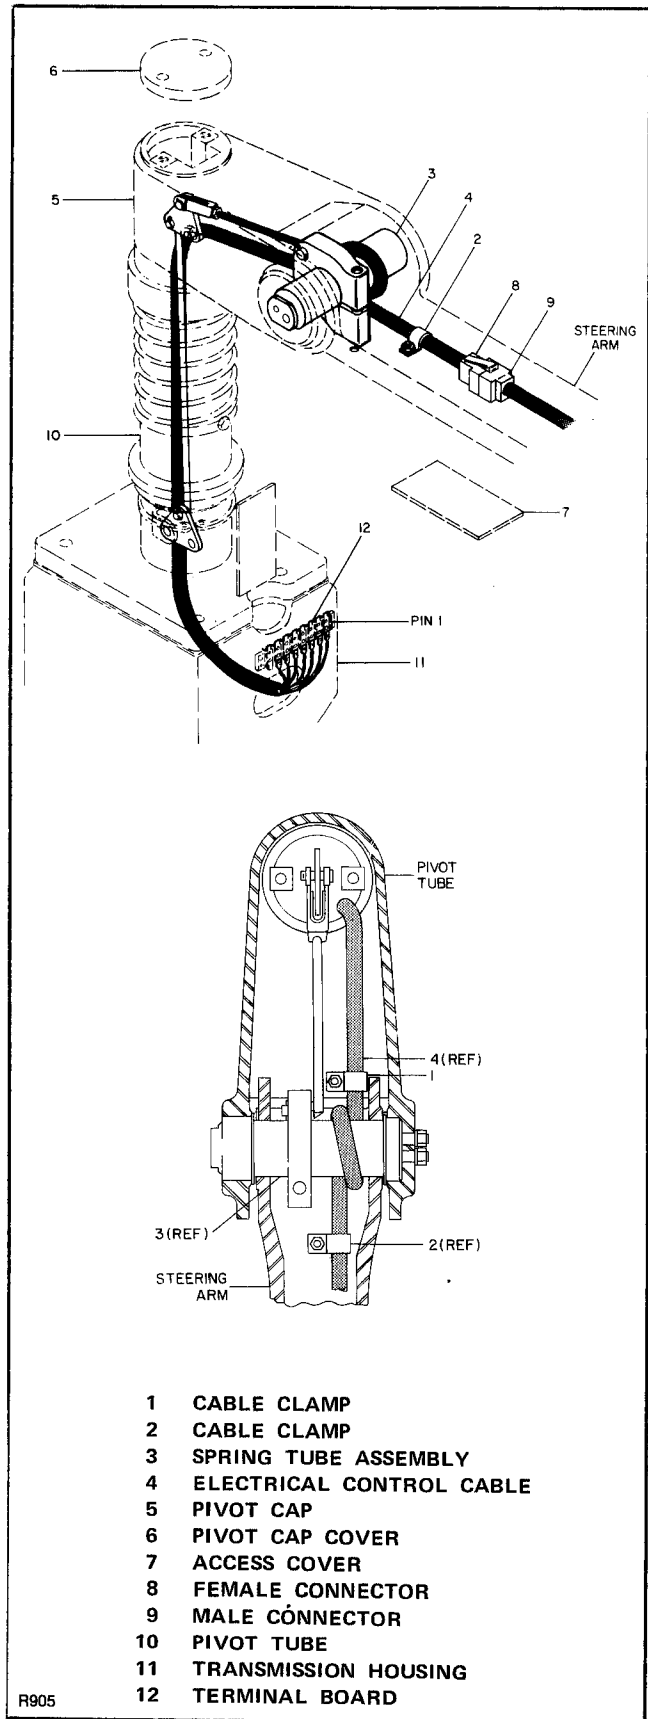

Figure 3-6. Electrical Control Cable Replacement
7. Remove steering arm return spring (2) from spring tube assembly. If spring is severely jammed and will not come loose, use punch and drive the 1/4-inch diameter roll pin into the tube. Save pin for reuse. Remove the spring. Tap roll pin back into place.
10. Slide spring tube assembly into pivot cap (3) and steering arm (12) through tube clamp (10) and through loop of electrical cable. Refer to figure 3-6 for internal view of steering arm with return spring installed.
3-12. Electrical Control Cable Replacement (Figure 3-6)